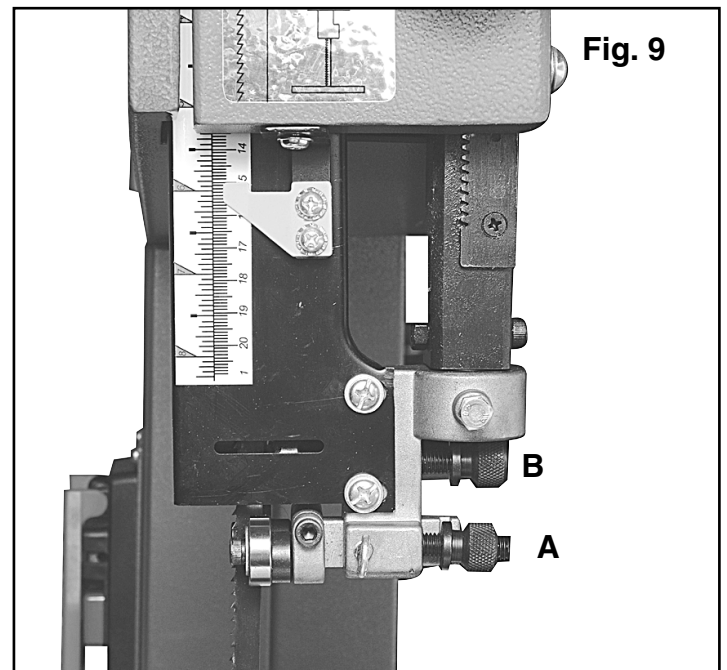

Fig. 9
- The bearings for the upper and lower guide assembly should be .5mm from the sides of the blade. There is also a micro adjustment at the rear of the guides to move them forward or back. Fig. 9 A. Make sure the guide bearings are set back from the blade teeth.